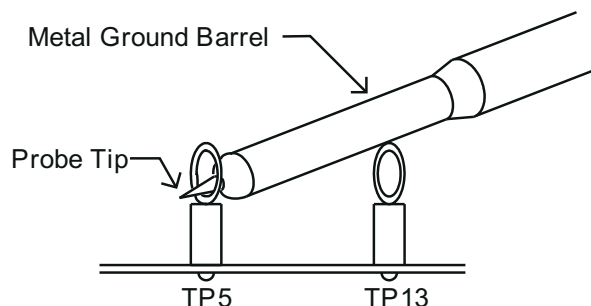

Figure 6-1. Output Ripple Measurement - Tip and Barrel Using TP5 and TP13
3. Place the oscilloscope probe tip through TP5 and hold the ground barrel to TP13 as shown in Figure 6-1. For a hands free approach, the loop in TP13 can be cut and opened to cradle the probe barrel. V2 can have to be removed from these test points to allow the oscilloscope to be connected.
7. Set the signal generator to 360 kHz and pulse shape per Figure 6-1.